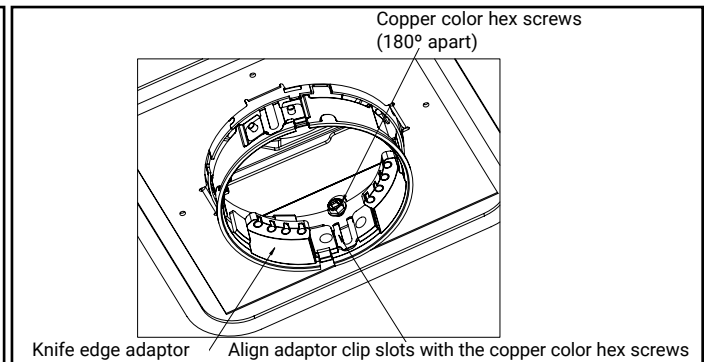

Figure 2.
5. Take the new knife edge trim adapter and align adaptor clips Slots with the on collar (see Fig. 2).